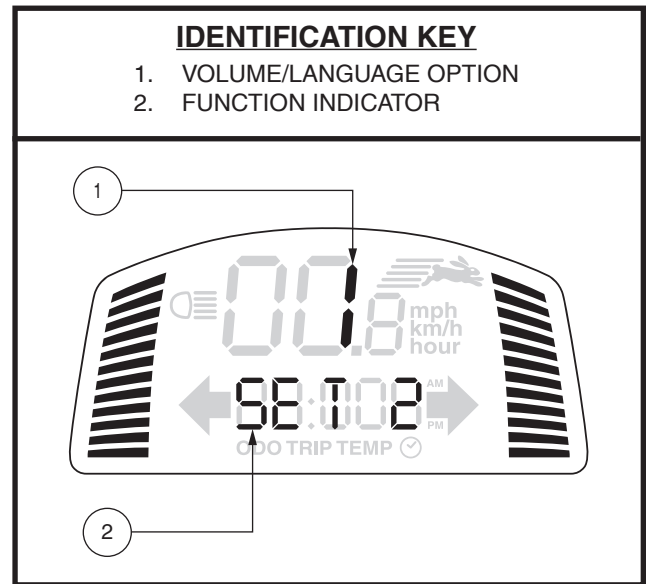

Figure 6. Volume Control Display
**NOTE:** *The 4-way flashers will flash and a warning beep will sound as long as the hazard lights are on. See figure 6 for volume control.*
The volume of the hazard lights, horn, low voltage, turn signals, and error message can be turned on or off separately. See figure 6.